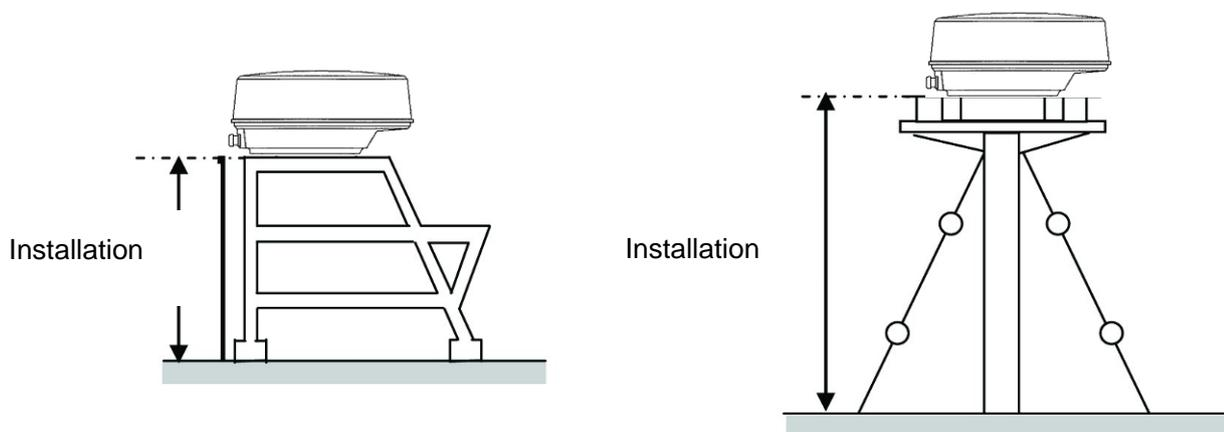

Fig. 1-3-3
- If it is considered that sufficient installation height cannot be provided when the scanner is installed directly on the roof of the wheelhouse, use a mounting rack or radar mast (Fig. 1-3-3). Normally, when the scanner installation height is less than 2 meters from the roof of the wheelhouse, provide a mounting rack assembled at an angle frame to install the scanner. When the scanner installation height is 2 m or higher from the roof of the wheelhouse, provide a cylindrical radar mast to install the scanner. Consider the convenience of the service staff who take care of installation, maintenance, adjustment, and repair of the scanner by providing adequate footholds to the mounting rack and the radar mast